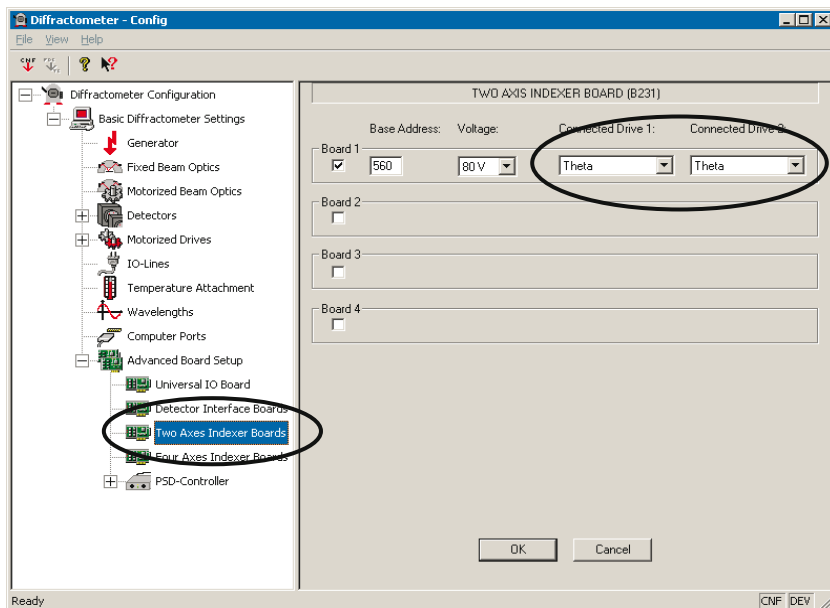
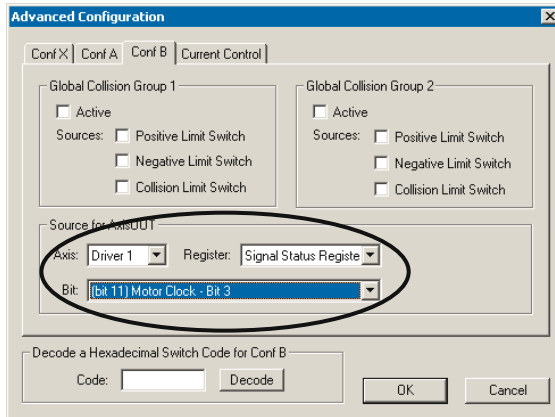

Figure 6.8 Manual settings for TH-TH
Figure 6.10 Motorized Drives section
2. Select **Advanced Board Setup > OK, Show Dialogs > Two Axes Indexer Boards**. Ensure that physical drive 1 is connected to logical axis **TH-Detector**, and physical drive 2 is connected to logical axis **TH-Tube** (see Figure 6.8).
4. Answer **Yes** to the confirmation message and click **Additional Settings**. The following box appears (Figure 6.10). Select the axis that should deliver the Clock signal. Because the logical axis TH-Detector is sending the clock signals, this motor axis has to be chosen. From Figure 6.8, the "Axis" must be **Driver 1**. Set "Register" to **Signal Status Register** and "Bit" to **(bit 11) Motor Clock – Bit 3**.